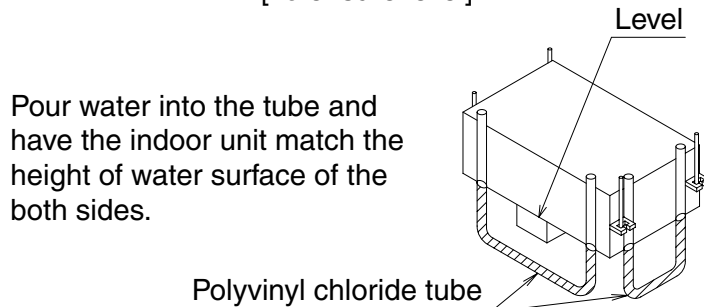

Fig. 6
- (4) Check the level of the unit. **(Refer to Fig. 6)**
- (5) Remove the washer clamp (7) used for preventing the washer for hanger (3) from dropping and tighten the upper side nut.
- (6) Remove the installation pattern paper (5).